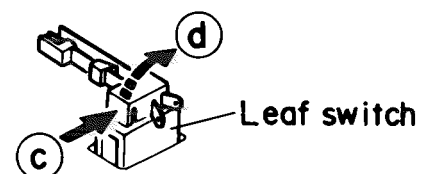

Fig.2-12
■ Leaf switch (Fig.2-12)
1. Press the leaf switch in the direction of the arrow ③ and then remove it in the direction of the arrow ④ referring to Fig.2-12.